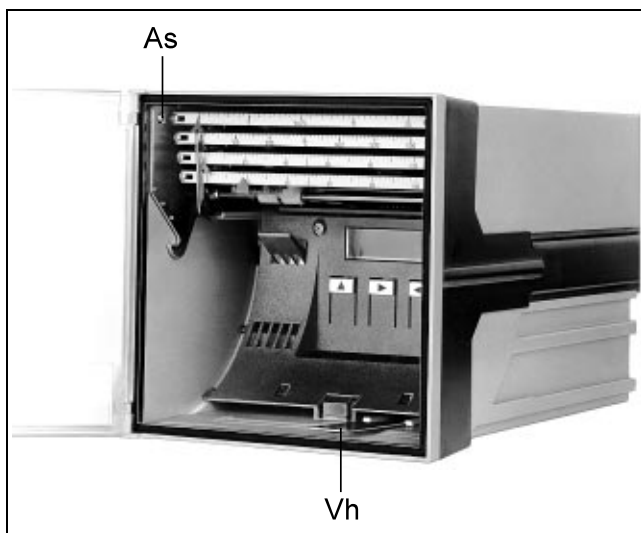

Fig. 13 As Retaining screw
1. Loosen the retaining screws *As* (see fig. 13) and pull forward the measuring element carriage by approximately 2 cm.
2. Lift up the locking lever *Vh* (see fig. 13) whilst pulling forward the module simultaneously.
11. Push the measuring system carrier into housing and screw tight the retaining screw *As* (see fig. 13).